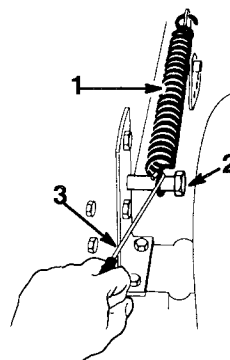

Figure 47
15. Hook the height-of-cut lift assist spring onto the retaining bolt (Fig. 47), using the spring tool provided with the machine.